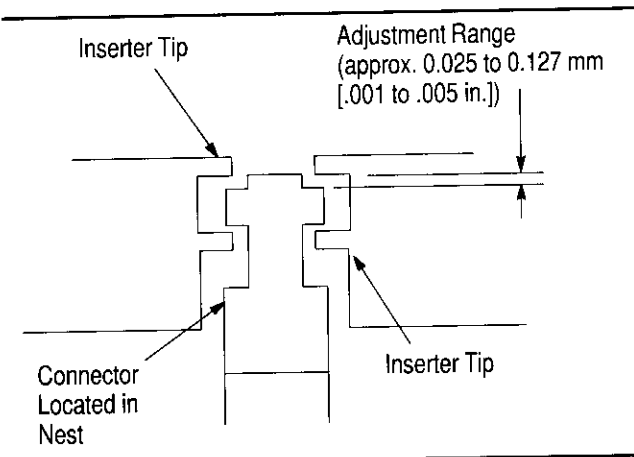

Figure 5
4. Manually extend the inserter tips until they are near, but not inserted into, the contacts. The inserter tips should align with the contacts as shown in Figure 5. If not, the mandrel height must be adjusted.